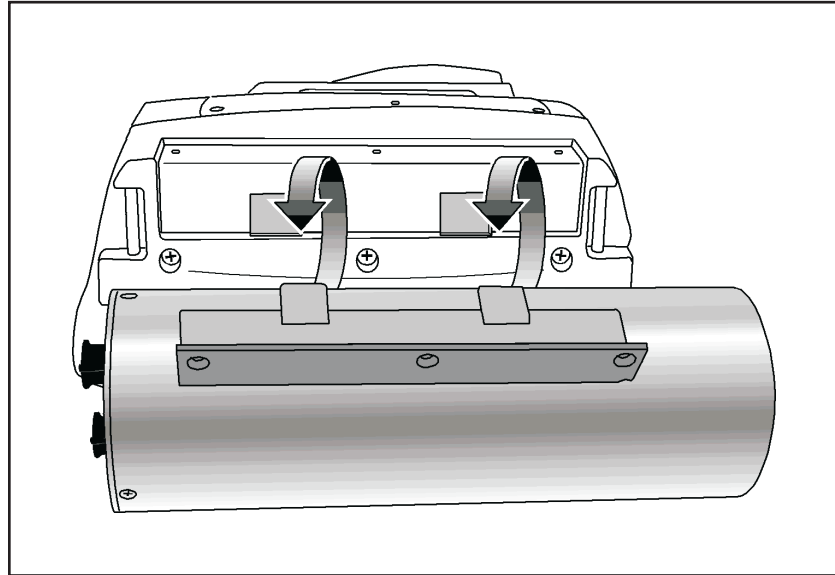

Figure 101 Disengaging the Probe
4. Remove the Neutron Probe from the InSpector by rotating it away from the InSpector and disengaging the lugs (Figure 101).